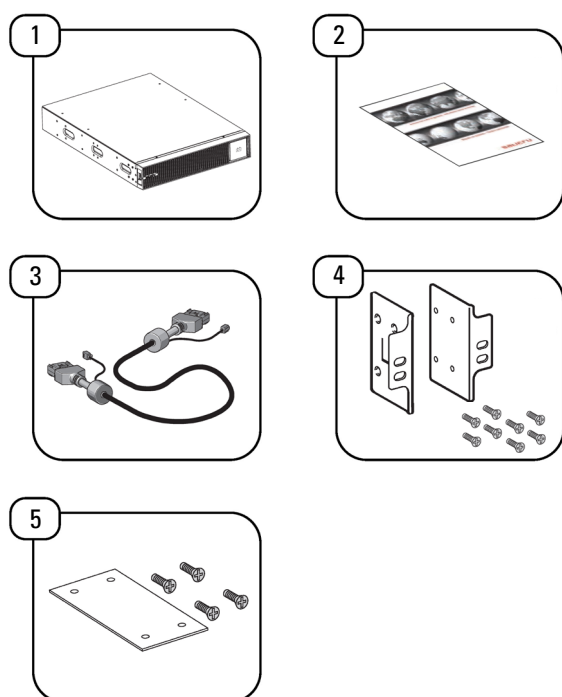

Fig. 12. Battery module packaging content (EBM).
Connect the battery modules in series using the cables with a built-in RJ45 (item 4 Fig. 12), as shown in the following figure:
Use of the supplied metal plates (item 5 in Fig. 12) to join the different EBMs to the UPS in case of installation in tower format, as shown below: